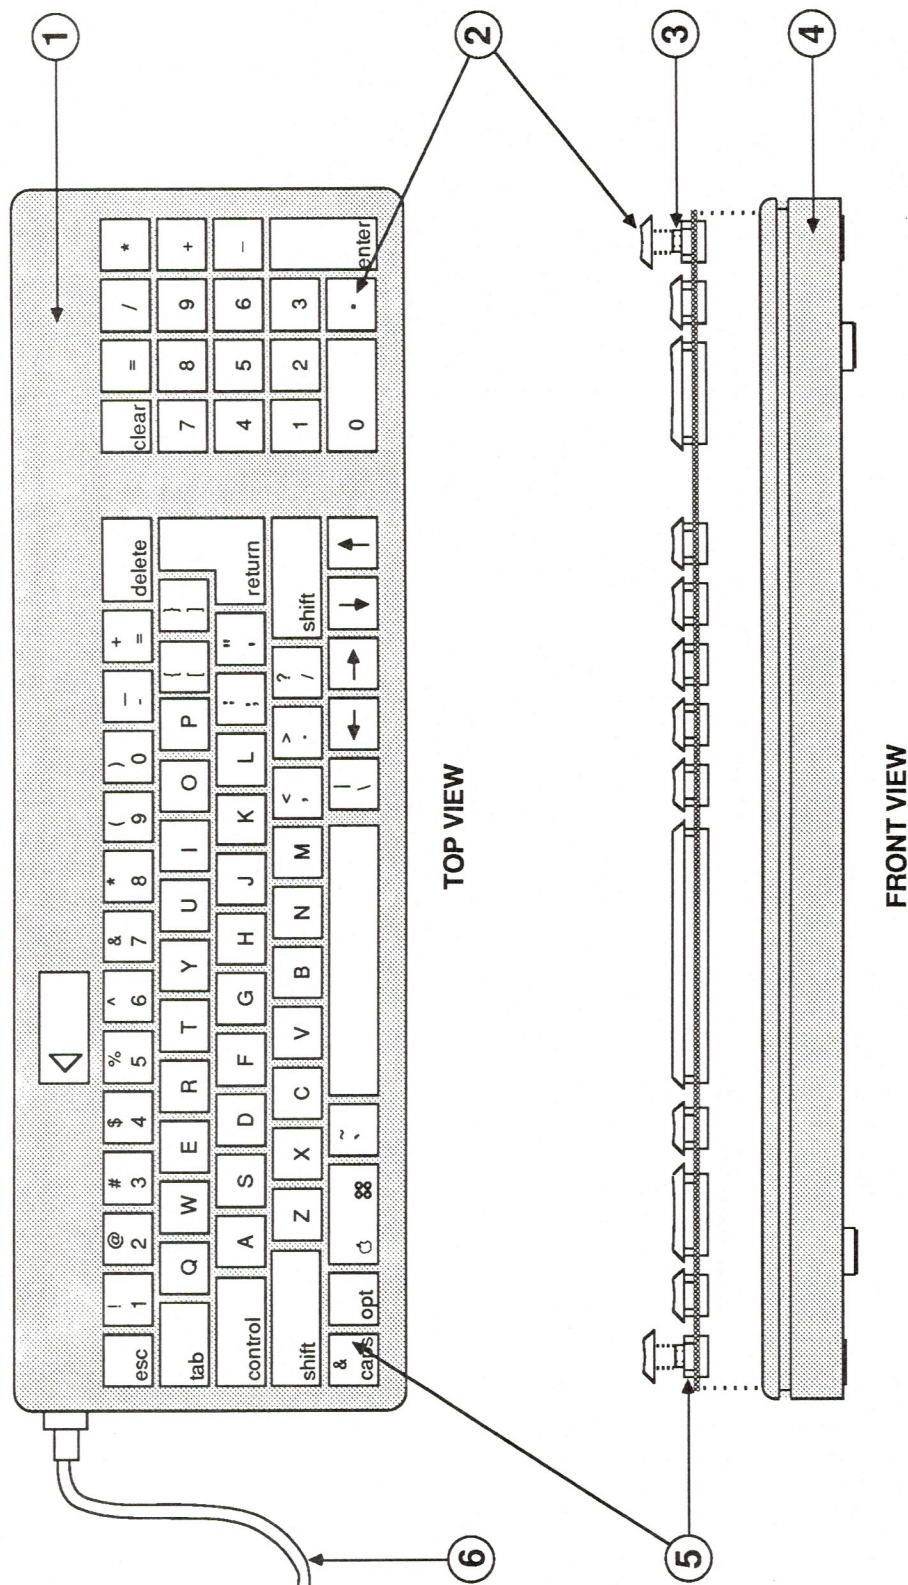

FIGURE 9
IPL.17	Keyboard (Figure 9)
□ MACINTOSH SE – KEYBOARD (Figure 9)